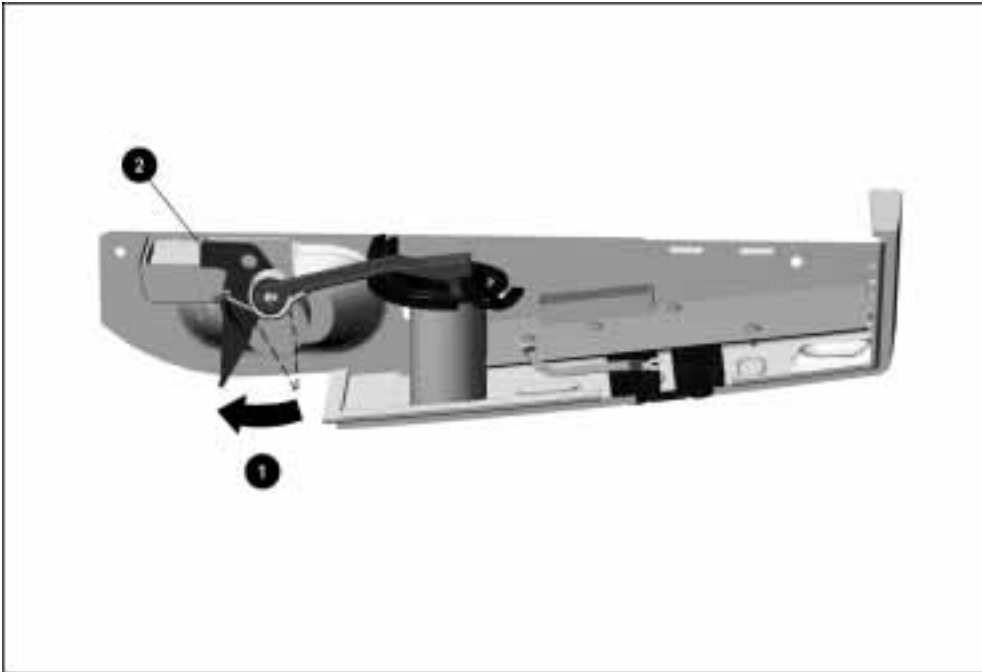

Figure 5-42. Rotating the Security Actuator to the Proper Position
2. Rotate the security actuator clockwise ① and push it toward the control panel assembly until it locks on the indicated position ② (Figure 5-42).